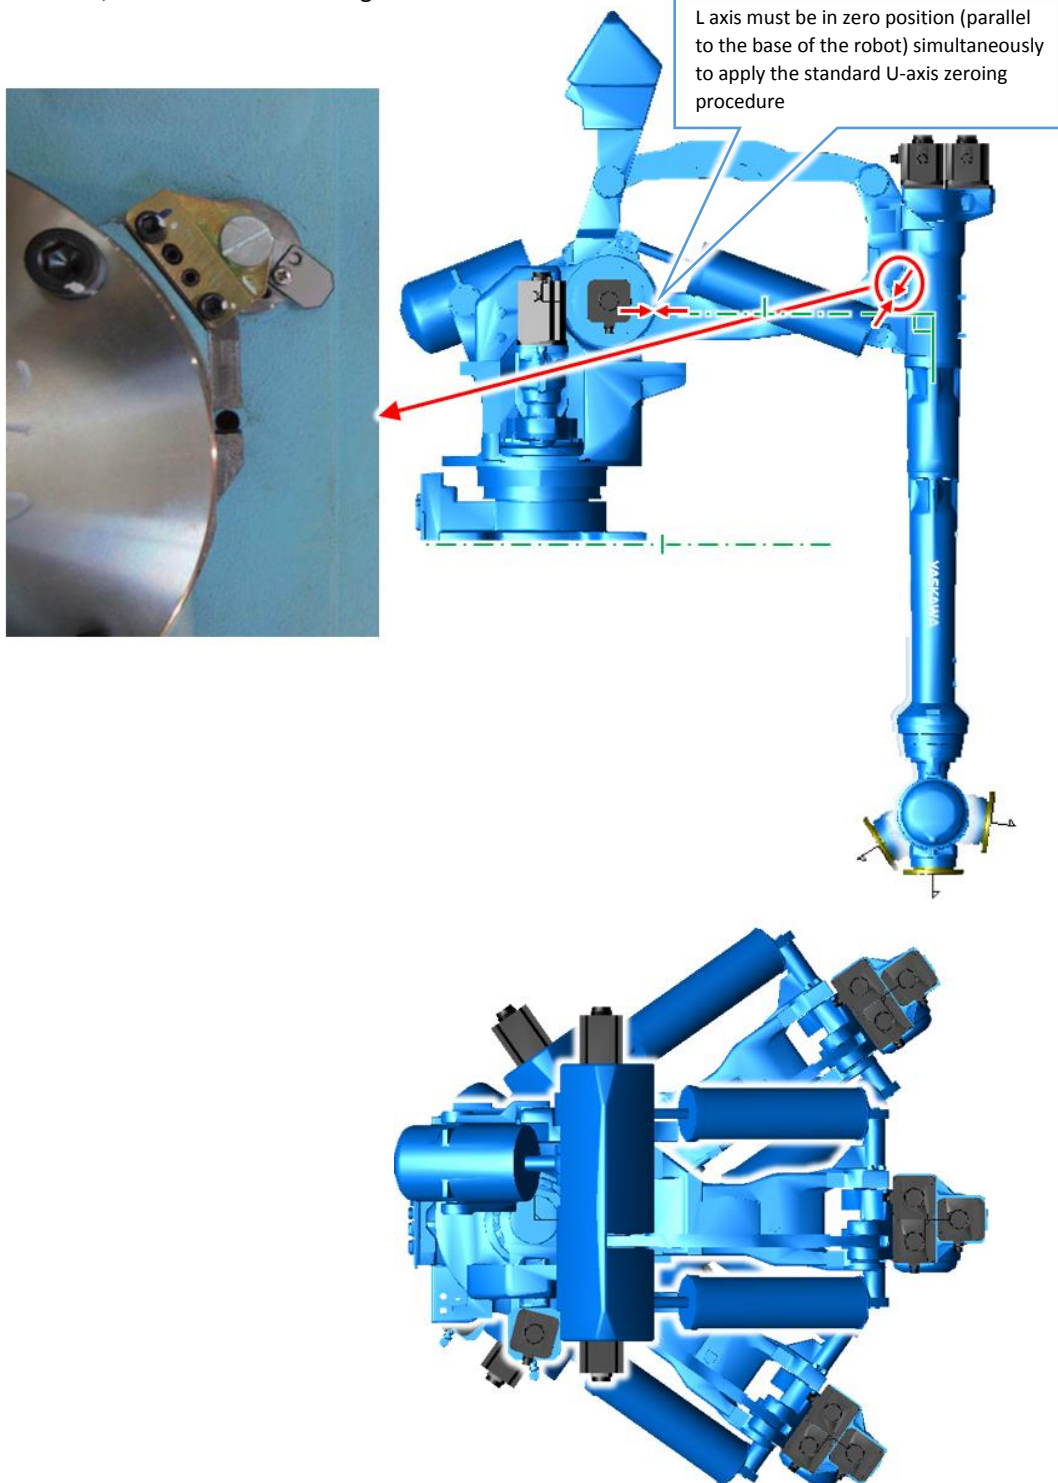

Figure 4: U-axis Zeroing Bracket Location and Zero-L-Axis Alternate Zeroing Postures
- Simultaneous zero positioning of **L axis is required** (Figure 4)